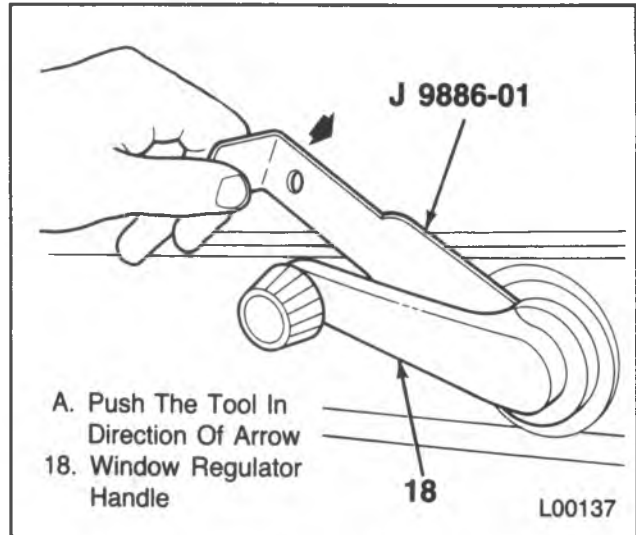
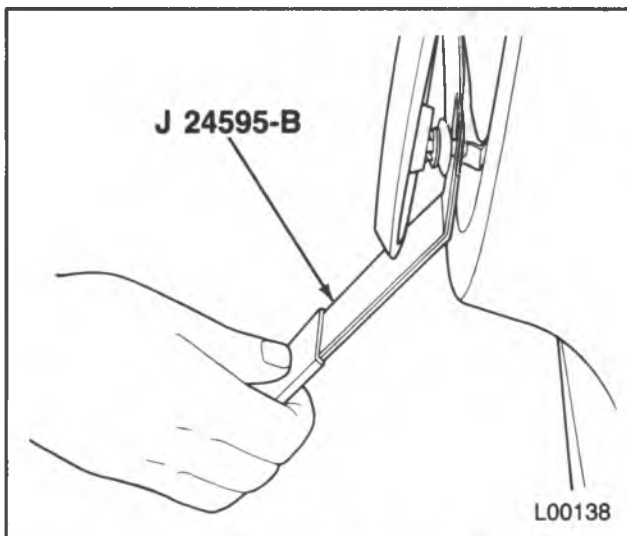

Figure 6 — Handle Clip Remover
Figure 9 — Door Trim Pad Clip Remover
↔ Remove or Disconnect (Figures 6 through 9)
1. Window regulator handle using J 9886-01 (figures 6 and 7).
3. Arm rest to arm rest bracket screws (77).
6. Strap assembly screws (24) (if equipped).
8. Door trim panel to door screws (22).
9. Door trim panel to door retainers using J 24595-B (figure 9).